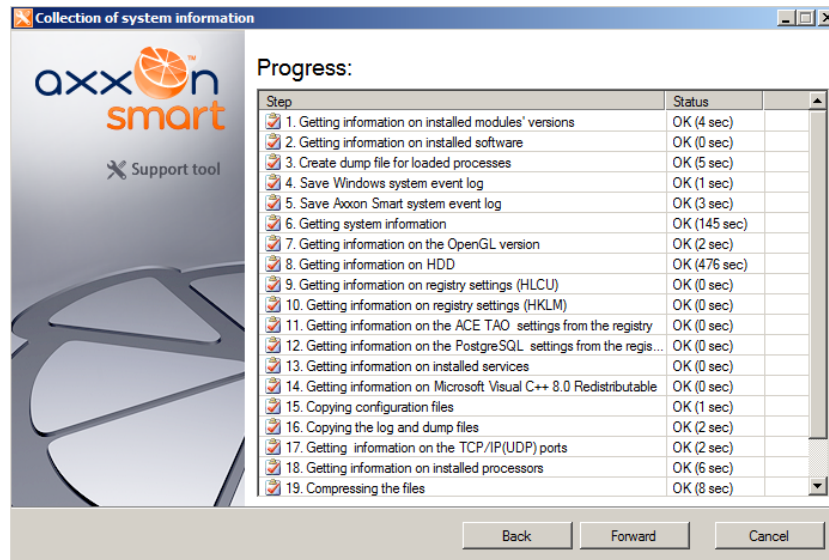

Fig. 8.1—7 Completion of information collection
5. A window containing information about the generated archive **support_[date]_[time].7z** will then appear. You can access the folder containing this archive by clicking the **Open directory with file** button (Fig. 8.1—8).